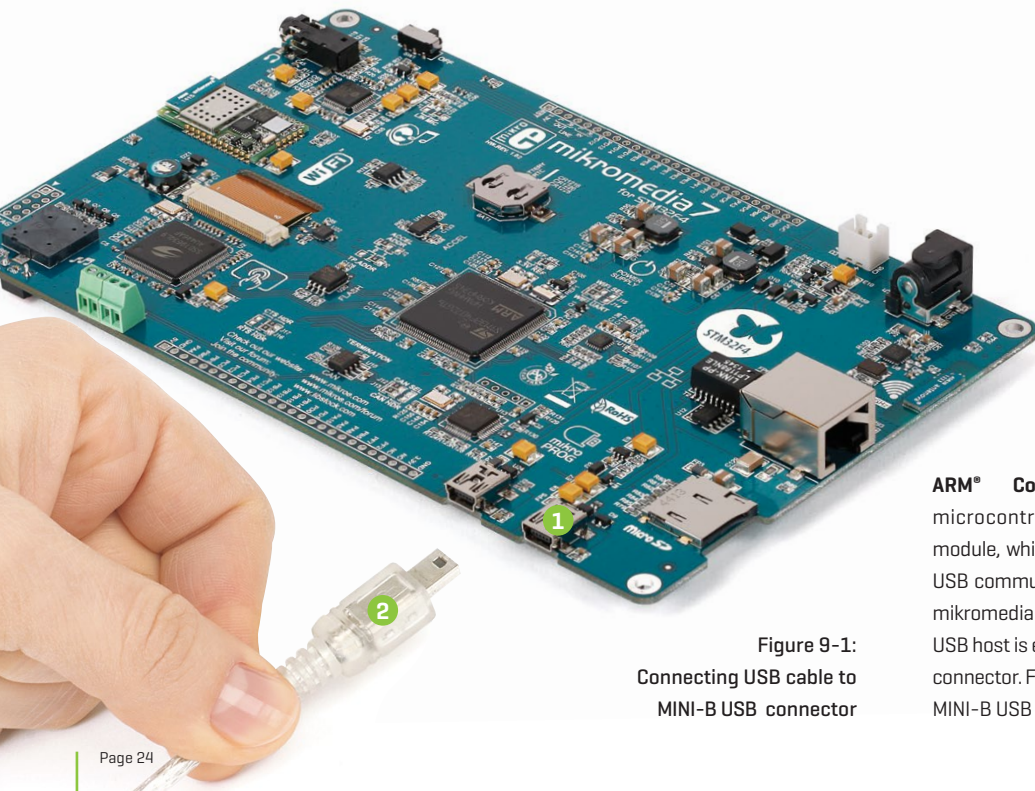

Figure 9-1:
**ARM® Cortex™-M4 STM32F407ZG** microcontroller has integrated USB module, which enables you to implement USB communication functionality to your mikromedia board. Connection with target USB host is establish over **1** MINI-B USB connector. For proper insertion of the **2** MINI-B USB cable refer to **Figure 9-1**.